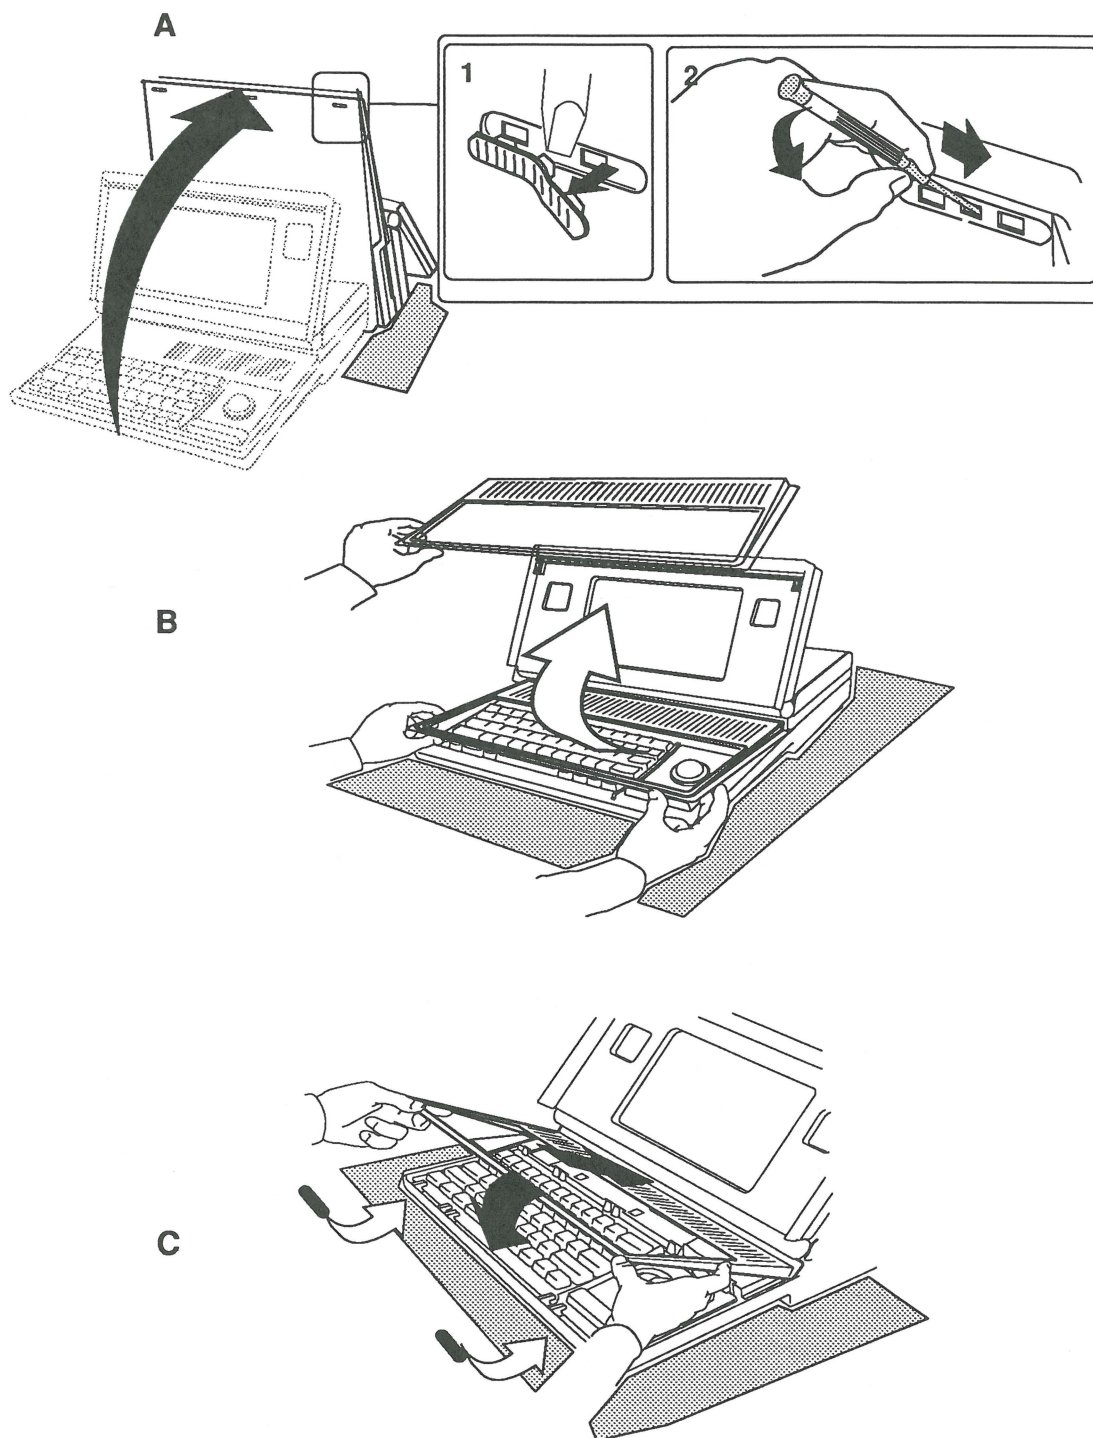

FIGURE 2
2. **Figure 2-A.** Position the computer as shown.
3. **Figure 2-A1.** Locate the plastic feet at the top left and top right of the case. Remove each foot by inserting the tip of the screwdriver under the center of the foot and gently lifting the foot away from the case.
4. **Figure 2-A2.** Push the tip of the jeweler's screwdriver into the center hole on the top right of the bottom case. Push the screwdriver down and out until the corner unsnaps.
7. **Figure 2-B.** Starting at the edges and working toward the center, slide your index fingers between the bottom case and the keyboard cover until the cover is released.
1. **Figure 2-C.** Place the rear edge of the keyboard cover in place and pivot the front of the cover down as shown.
3. **Figure 2-A.** Place the unit back in the position shown and replace the rubber feet.